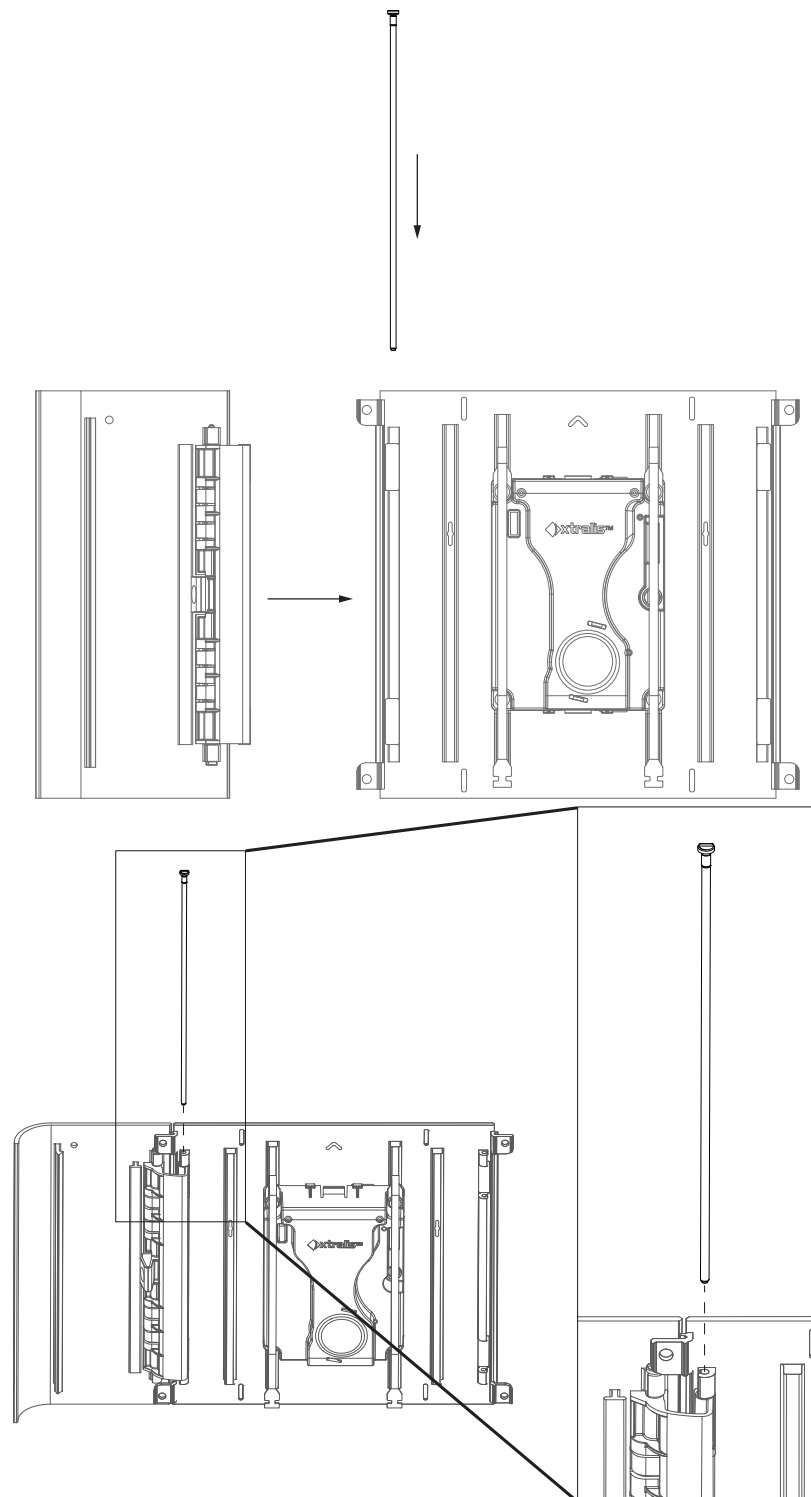
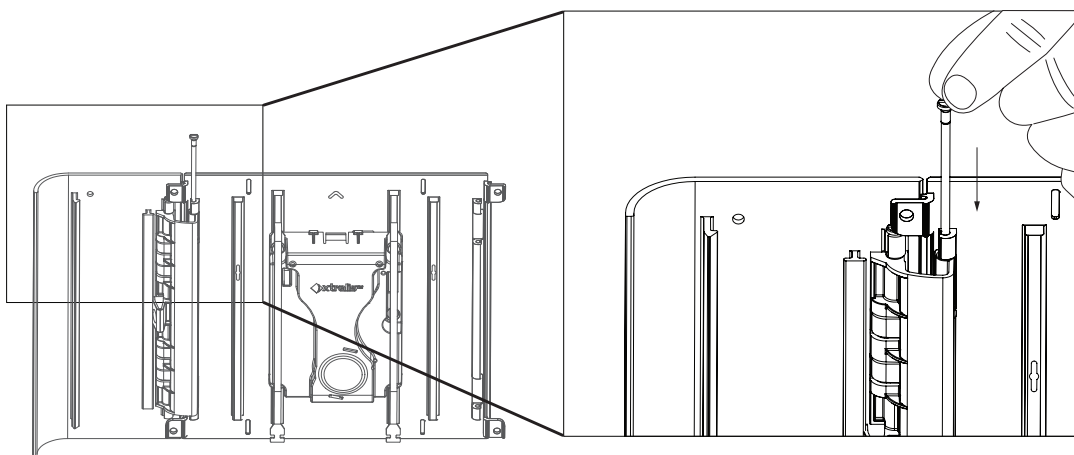

Figure 4-12: Replacing the door hinge pin - showing correct positioning of door and pin
Figure 4-13: Replacing the door hinge pin
7. Replace the door hinge pin. (Figure 4-12, Figure 4-13)